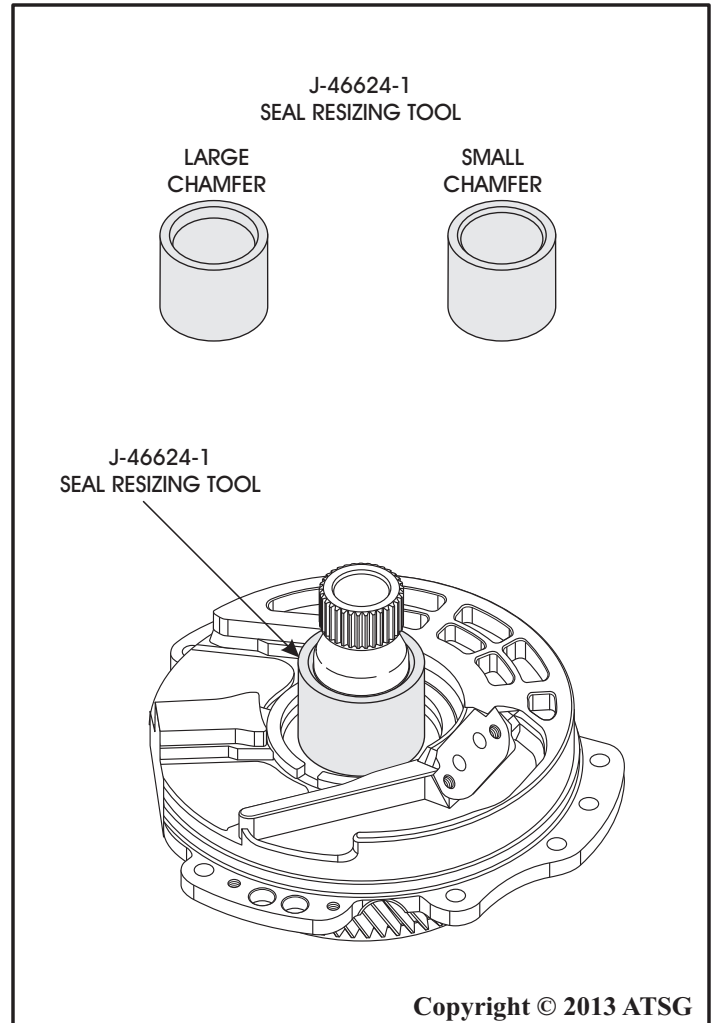

Figure 104
7. Install the J-46624-1 resizing tool with the small chamfer end facing up, as shown in Figure 104, and leave in place for at least 60 seconds.